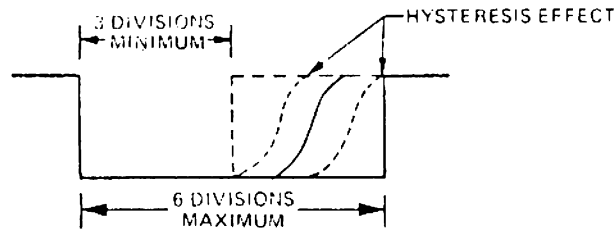

Figure 1. AC Motor Speed Control Signal Pulsewidth
- 3.2 Observing the waveform displayed on Channel 1 (TP22) adjust potentiometer R212 so that the positive-going edge of the pulse occurs between 0.3 ms and 0.6 ms as shown in Figure 1. Ensure the oscilloscope is still synced on the negative going edge of the pulse. Some hysteresis effect, approximately 0.1 ms, may be noted on the positive-going edge due to variations in line frequency.